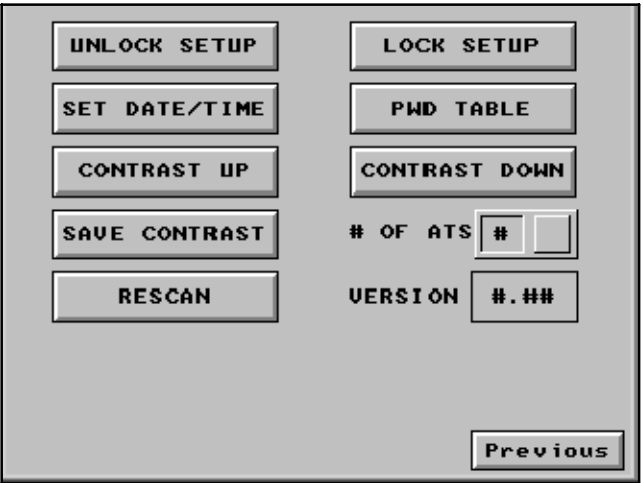

Figure 17 Setup Screen
1. Press the Setup button at the lower left corner of the Summary screen. The Setup screen shown in Figure 17 appears.
4. When the correct password has been entered, the Setup screen returns. Press the button to the right of # OF ATS in the second column. See Figure 17. A numeric keypad appears. Touch the correct number of connected transfer switches and press the enter key (ENT).